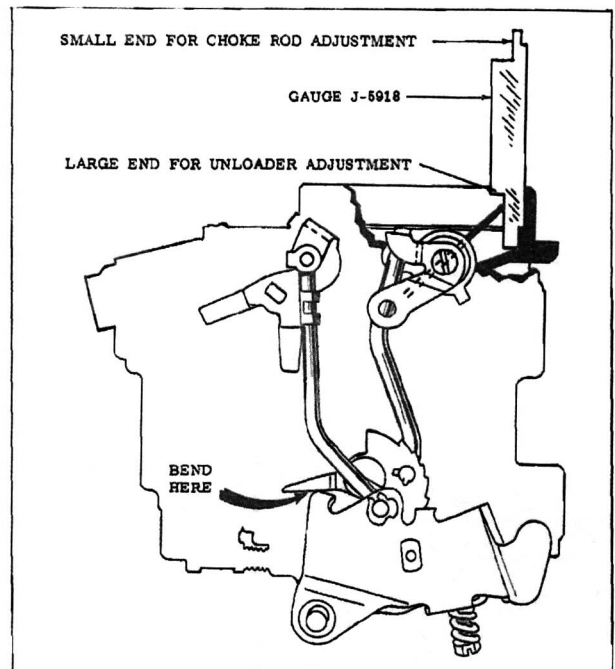

Fig. 13 Unloader Adjustment
- Using large end of Tool J-5918, check clearance between top of choke valve and inner wall of air horn. (See Fig. 13)